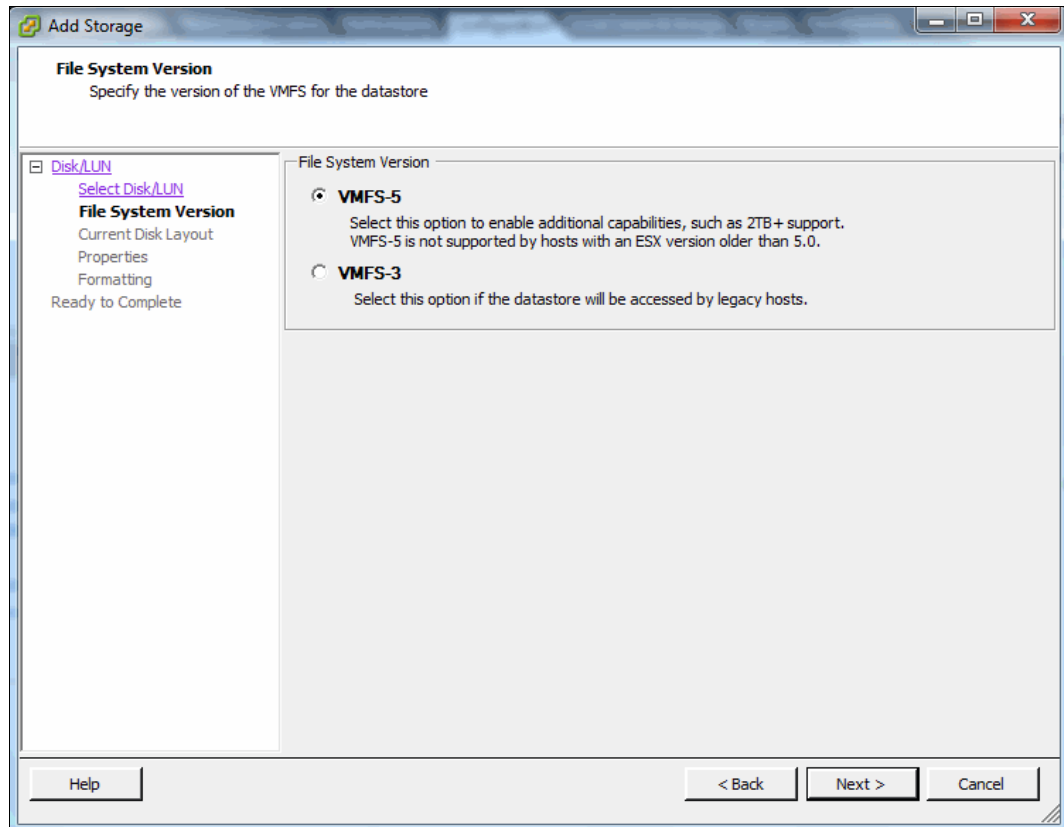

Figure 5-66 Selecting the File System Version for the new data store
4. Select an option for the File System Version. In this example, select **VMFS-5**, as shown in Figure 5-66. Click **Next** to continue.